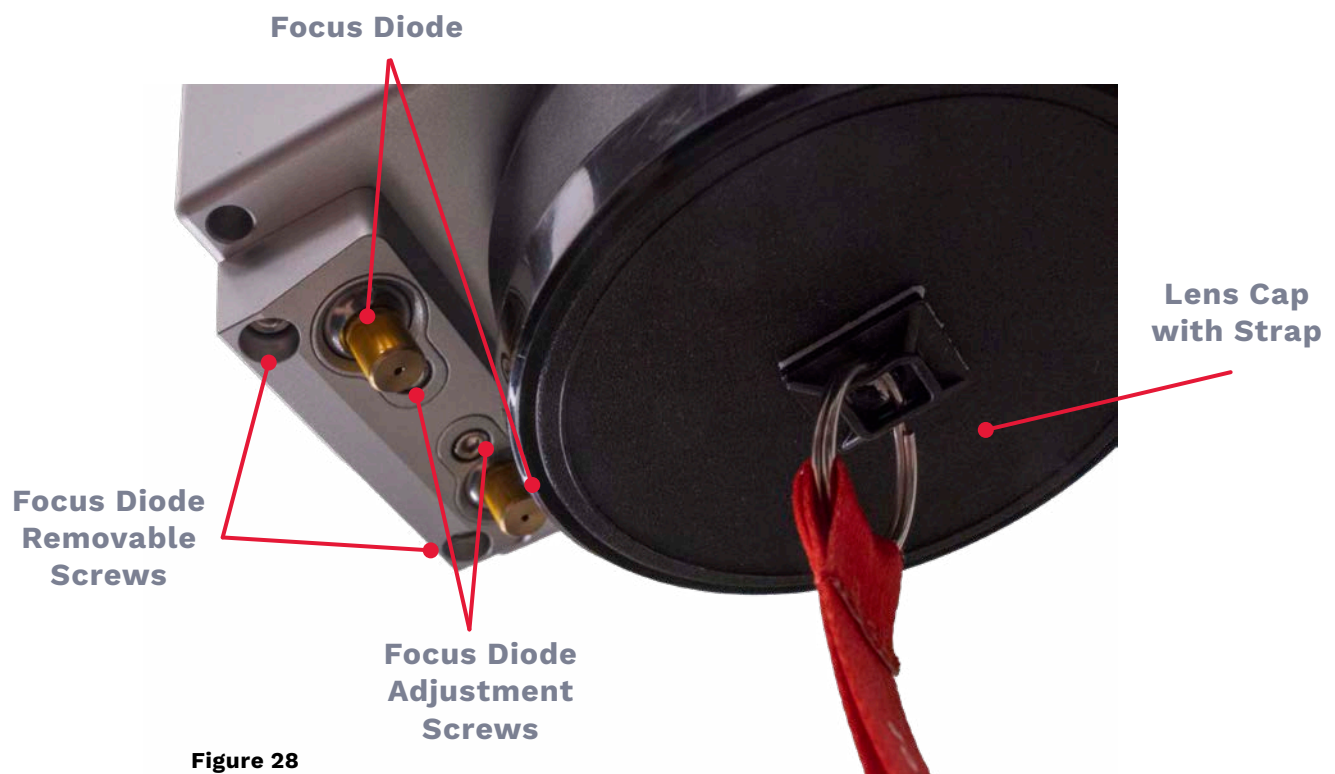

Figure 26
- Laser mark the cross hair and **DO NOT MOVE** the processed flat material. Start the process by either pressing the “Mark” button on the top of the laser head (**Figure 26**), the mark button on the laser engine (**Figure 2 on page 6**), or with the “Star Marking” button on the StarFX® Premiere Software (**Figure 14 on page 41**).